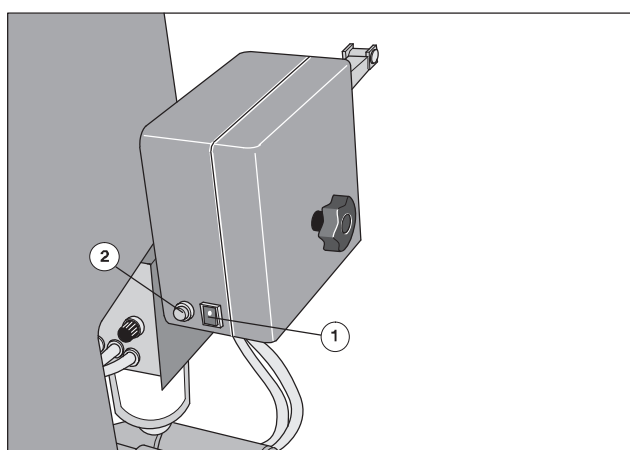

Fig. 38 Tape inserter function test
1. Switch on the mains switch (Fig. 38/1).
2. Press the button (Fig. 38/2) in order to advance and cut off a strip of paper.